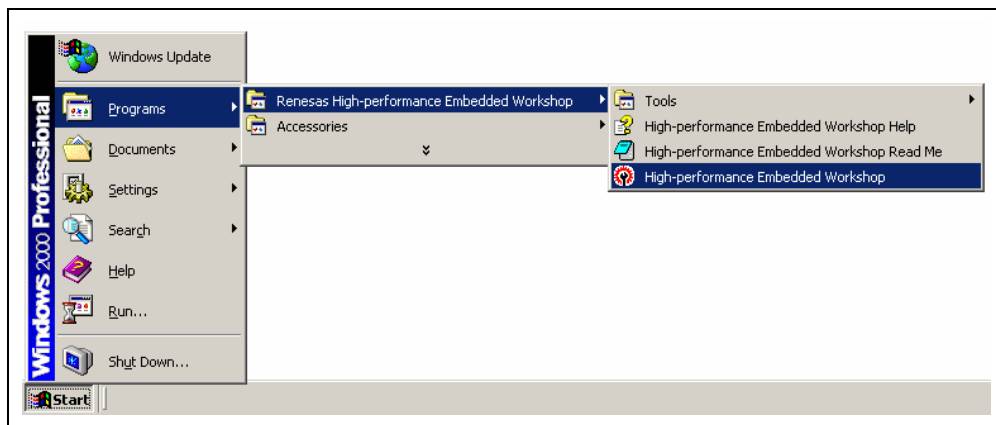

Figure 2.10 [Start] Menu
4. Activate the HEW from the [Programs] in the [Start] menu (figure 2.10).